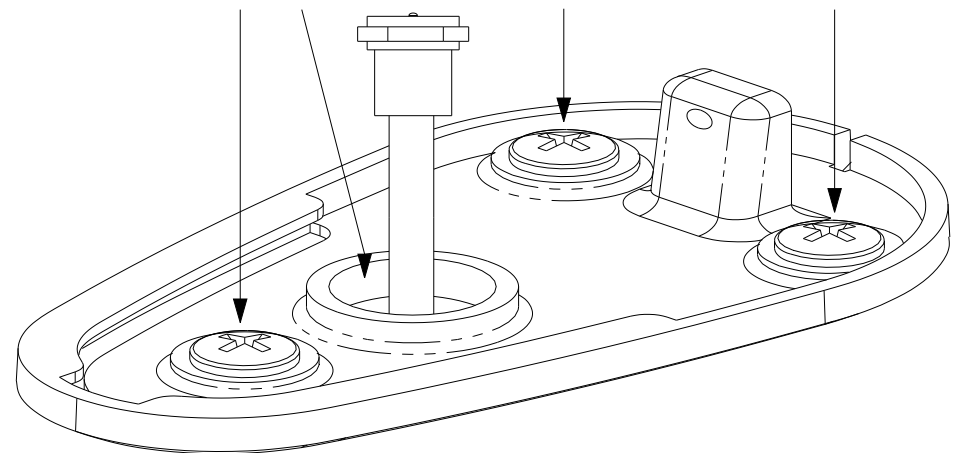

FIGURE 4
5. Apply approved caulking compound around all holes. Place base over holes and caulking. Secure base using the included 3 screws. Apply approved caulking compound to screw heads and fill 1/2" hole with caulking compound. See Figure 4